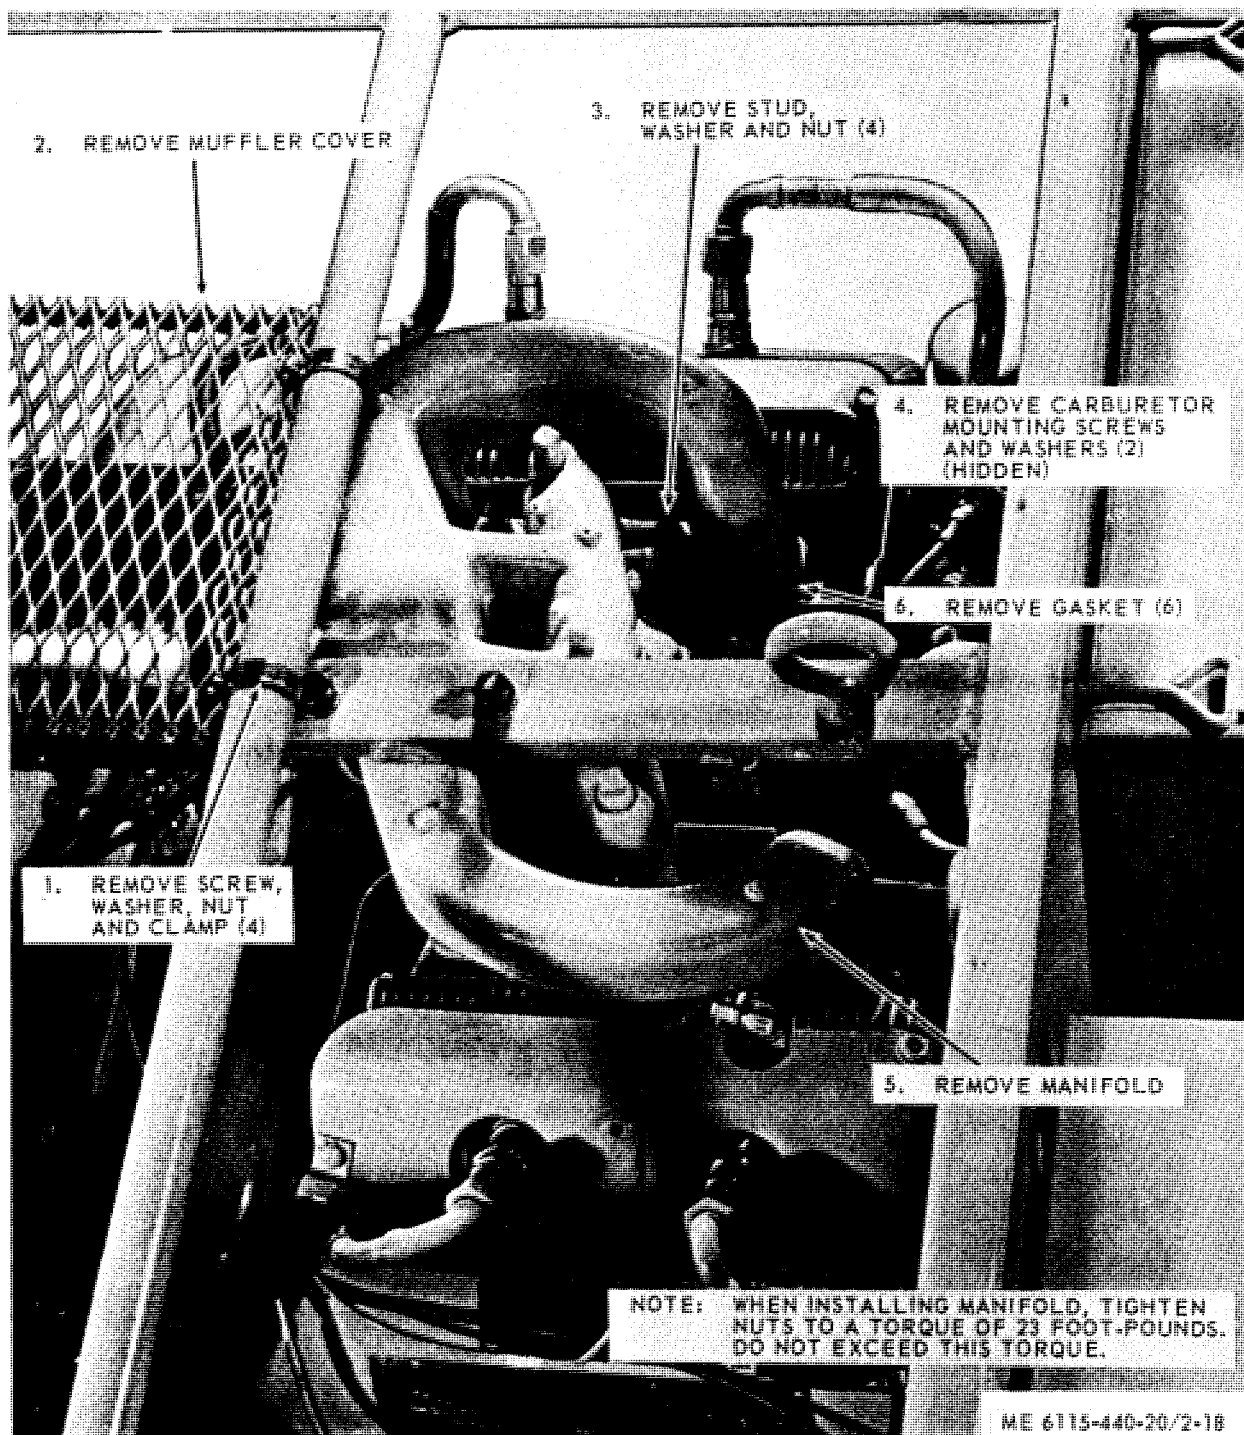

Figure 2-18. Intake and exhaust manifold, removal and installation.
- (1) Remove muffler (para 2-39).
- (2) Remove lifting bar (para 2-44).
- (3) Refer to figure 2-18 and remove the intake and exhaust manifold.
- (1) Refer to figure 2-18 and install the intake and exhaust manifold.
- (2) Install the lifting bar (para 2-44).
- (3) Install the muffler (para 2-39).